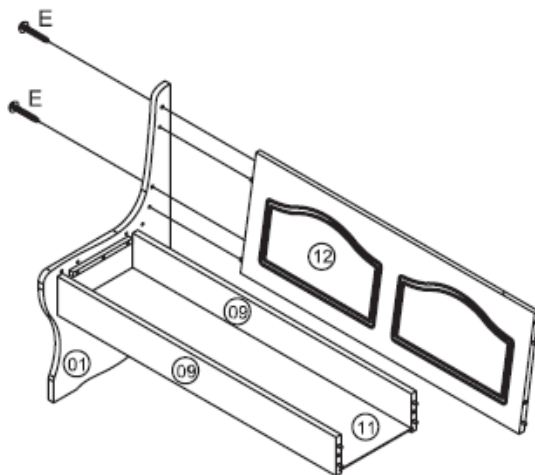

FIGURE 3.3
- Refer to Figure 3.3 - Attach Double Bench Backrest (12) to Middle Leg (1) via wood dowels on (12).